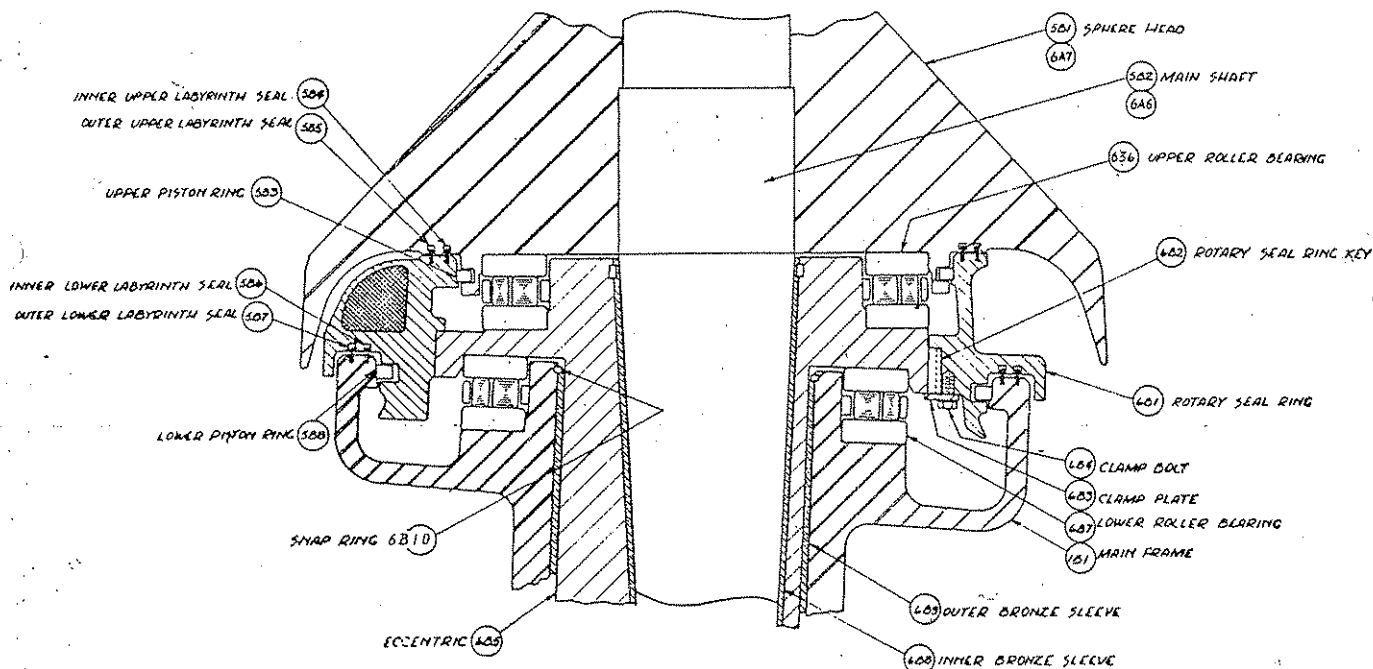

Figure 9
D. Style 36FC, 36S, 367S, 48FC, 48S and 489S Gyraspheres—see Figs. 9 and 10.
X12. REPLACING BRONZE SLEEVE BEARINGS—see Fig. 9, also paragraph 11.